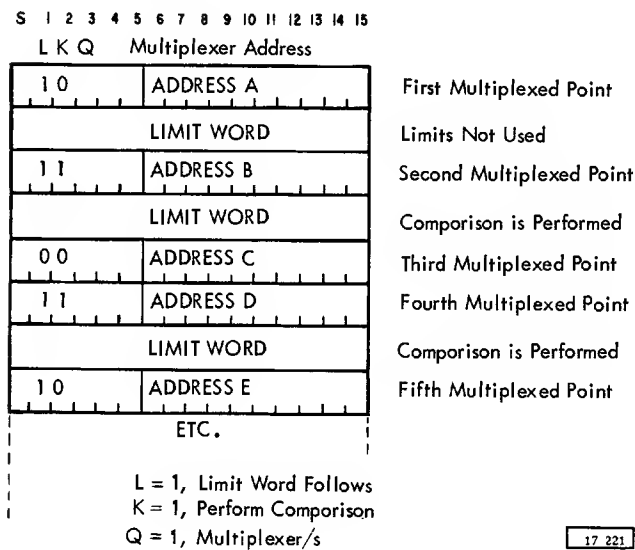

Figure 30. Data Table with Limit Words
The high and low limits are stored in P-C storage within the Multiplexer Address Data Table (see Figure 30). These limit values are expressed in eight bits (seven bits plus sign) with negative numbers represented in two's complement form. The Comparator is only used under the Random Mode of Operation (See Programmed Operation section). Following each Multiplexer Address entry that is to be checked is a limit word. The Multiplexer Address entry contains two control bits in addition to the analog input point address. These bits are stored in positions one and two of the multiplexer address word. The L bit, stored in position one, indicates the presence of a limit word as the next word in memory. The K bit, stored in position two, indicates whether or not a comparison is to be performed. In addition, bit position three (Q) indicates Multiplexer/S (1-bit) or Multiplexer/R (0-bit).
Figure 30 shows a sample table. The word count to control a two Data Channel operation is obtained from the Data Table which receives the converted values. Only the scan control bits are used from this table to provide unique chaining. Note that if the Multiplexer Overlap feature is installed, a limit word cannot follow Multiplexer/R addresses.